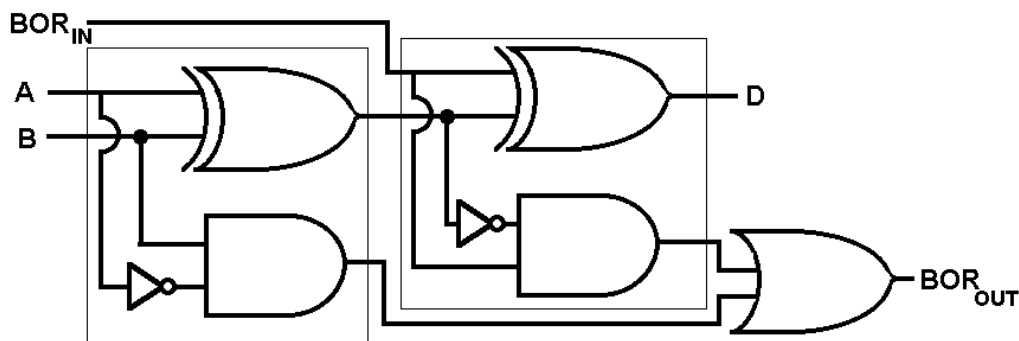

Figure 1: Full Subtractor Diagram
Step 3-1: Create an *ALU.vhd* file with an *ALU* module that has the same ports as the ALU shown in Figure 1, except that the inputs A and B, and the output R should be defined as generic N-bit wide vectors. Declare components for the N-bit Ripple Carry *Adder* and *Subtractor*, the *Output MUX*, the Overflow MUX, and for the *Two's Complement* modules. Instantiate each one of the components within the *ALU* architecture once. Connect the outputs of the *Adder*, *Subtractor*, and *Two's Complement* internal functions to the inputs of the *Output MUX*. Make sure to follow the assignment order shown in Table 2, and Figure 1. Connect the overflow bits of the *Adder* and *Subtractor* modules to the 2-to-1 *Overflow MUX*, and make sure to assign the least significant bit of the *Function Select* input as the select input to the 2-to-1 *Overflow MUX* instantiation.
Step 3-2: For the remaining binary and unary operators, use dataflow assignments to internal *ALU* architecture signals, and then connect these signals to the *Output MUX* in the order shown in Table 2, and Figure 1.
Step 4-1: Create a *Lab2.vhd* file that instantiates and interconnects, as shown in Figure 1, one ALU and one 7-Segment Driver, a module which was provided to you. Map the instantiated ALU's *generic* to 4 bits. Synthesize the design. Review the elaborated schematic to make sure the RTL design synthesized mimics the RTL design shown in Figure 1.